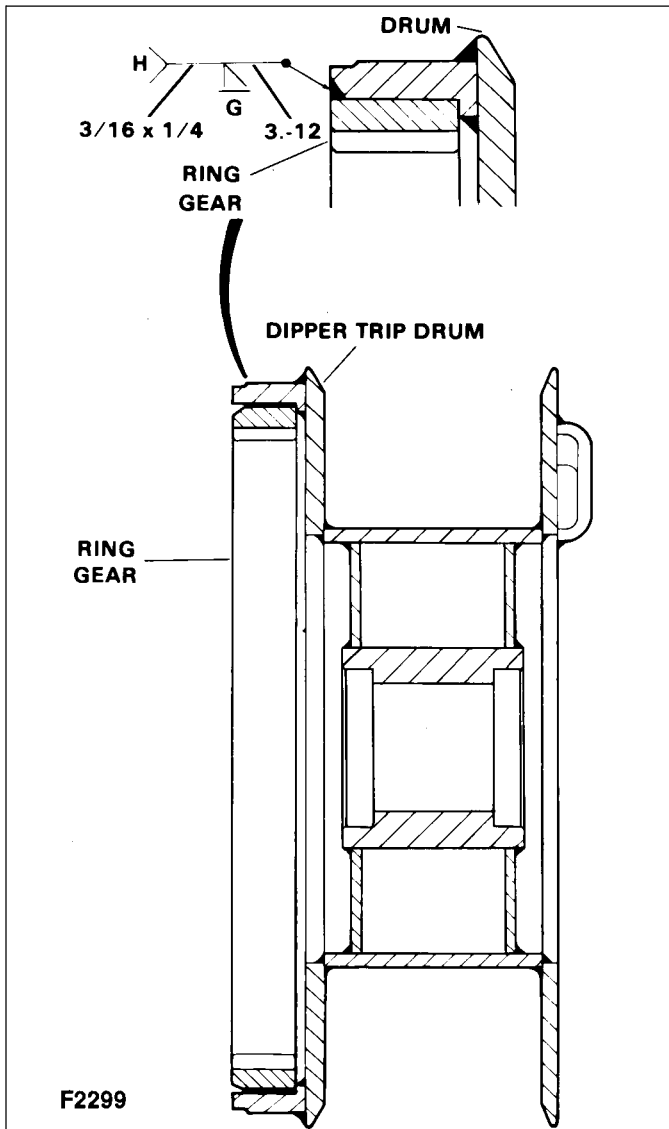

Figure 5-15. Ring Gear to Drum Welding
The dipper trip assembly is grease lubricated at two grease fittings on the drum and motor assembly (21, 37, Figure 5-15), one grease fitting on the dipper trip lever (if used) and motor oil lubricated at the dipper.
To disassemble the dipper trip motor and drum, proceed as follows (see Figure 5-15):
4. Pull drum (29) off base (32). Bearings (28) and shaft (37) will come off with the drum.
5. Remove spacer (27) and collar (31) from the drum shaft.
6. Press drum shaft (37) out of drum (29). One bearing (28) will come out on the shaft. Pull the other bearing (28) out of the bore of the drum.
7. Support the two motors (in phantom on Figure 5-15) and remove their mounting capscrews.
8. Using a gear puller, press each motor shaft out of its pinion (17) and bearing capsule (16). Lift each motor clear of the base (32).
To assemble the dipper trip motor and drum assembly, proceed as follows (see Figure 5-15):